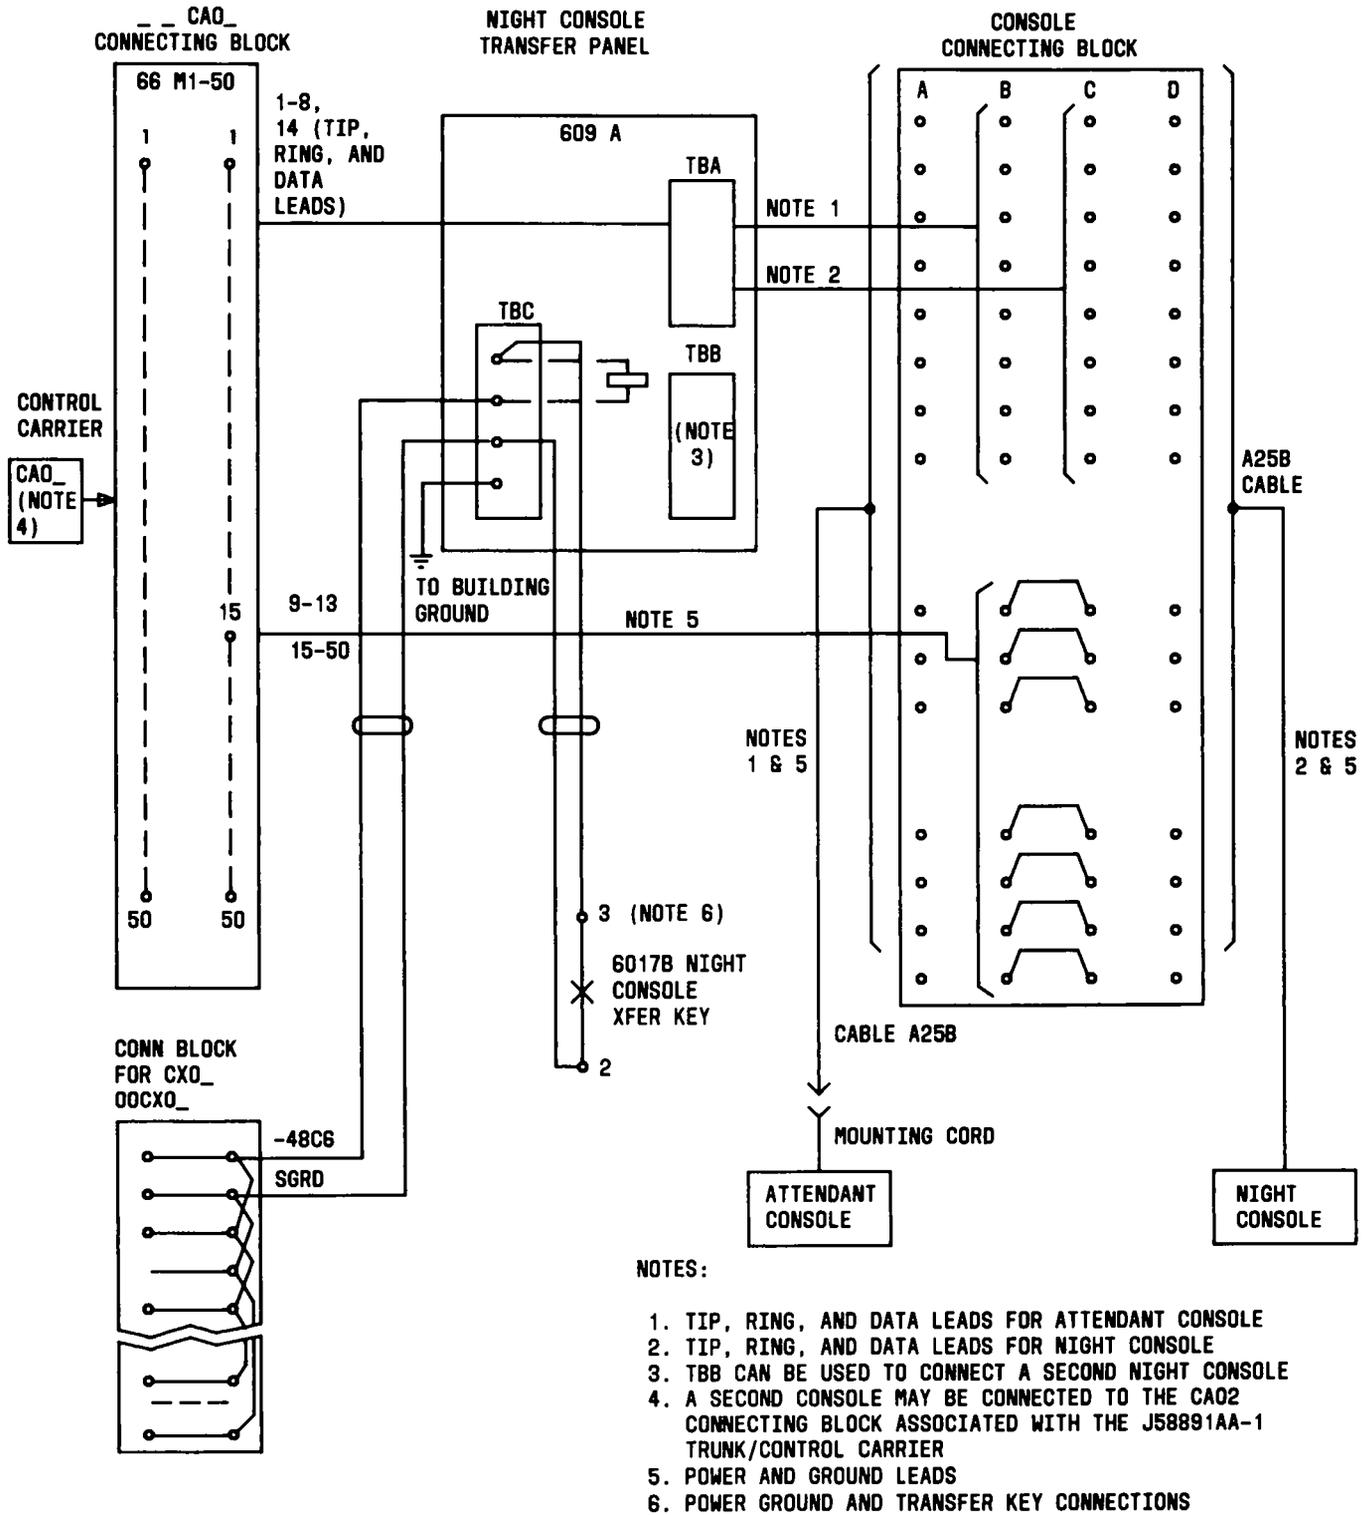

Fig. 12—Night Console Interconnection
5.19 The night attendant console option provides an alternate console for use after normal working hours. To activate night console, the attendant places the 6017B night transfer switch, located near the daytime console, in the night position and disconnects the unused handset or headset from the daytime console. The night console can be switched in and out of service by the 609-type transfer panel located in the cross-connect field. (See Fig. 12.) When a night console is provided, the day attendant console must be connected via a connector block in the cross-connect field.